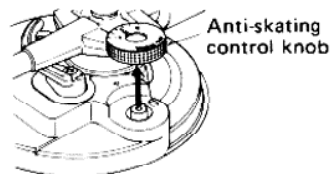

Fig. 7
1. Remove the anti-skating control knob. (Fig. 7)